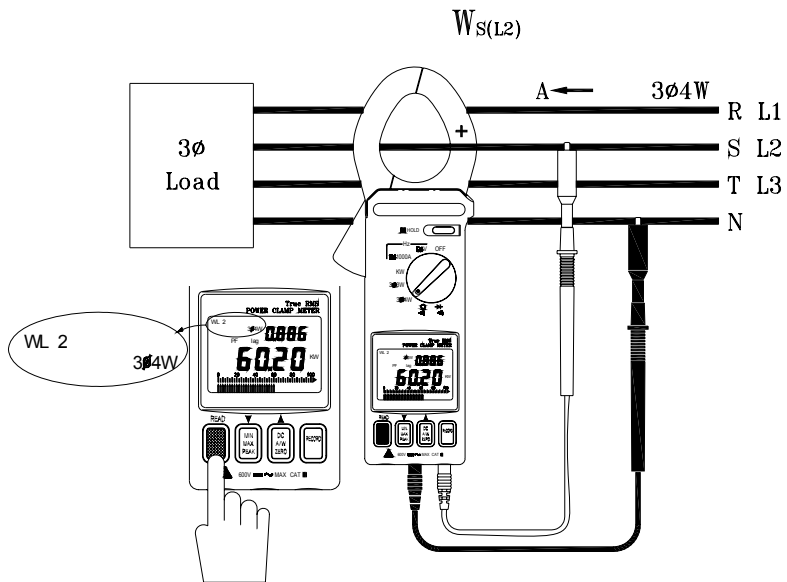

Figure 8
**C. Measure  $W_{T(L3)}/P_{FT(L3)}$  (refer to figure 8)**